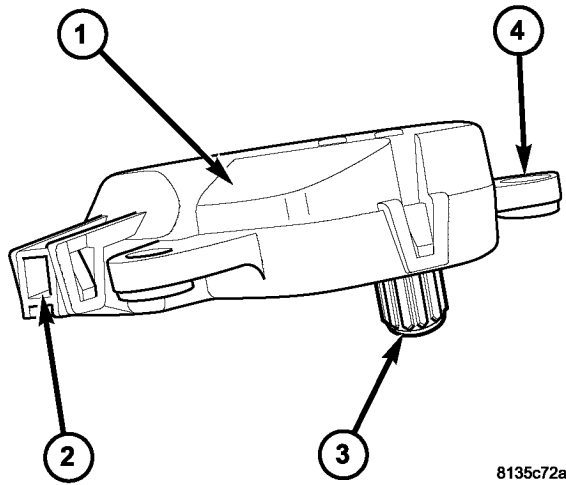

Fig. 25 Recirculation Door Actuator
The recirculation door actuator is a reversible, 12 volt direct current (DC), servo motor (Fig. 25). The recirculation door actuator is located on the bottom of the HVAC air inlet housing and is directly connected to the pivot shaft of the recirculation-air door.